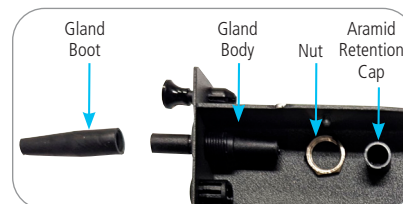

Figure 10. Thru-Splice Gland Components
- Mount all required gland bodies to the cassette and secure with nuts. See **Figure 10**.